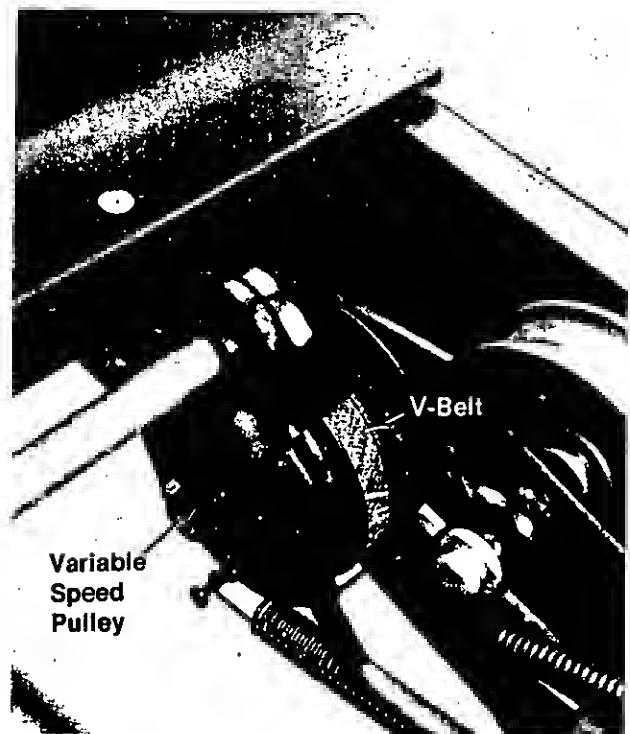

FIGURE 11.
3. Check to see if the V-belt from the engine to the variable speed pulley is within $1/16$ " of being flush to the edge of the variable speed pulley. If the V-belt is too low in the variable speed pulley, work it by hand until it is as shown in figure 11.
The photograph in figure 11 was taken from the top for clarity. The variable speed pulley can be reached from under the tractor.